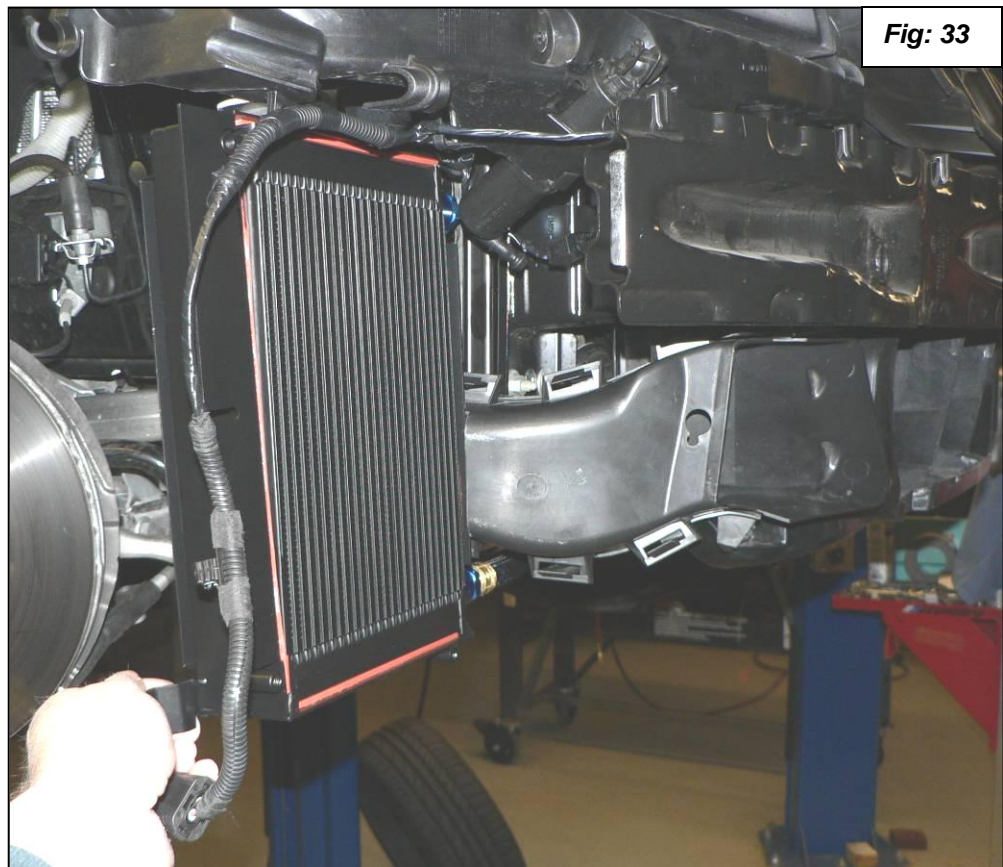

Fig: 33
41. When you pull the cooler into the position it will be with the bumper attached the clearance should be flush. See **figure 33**.